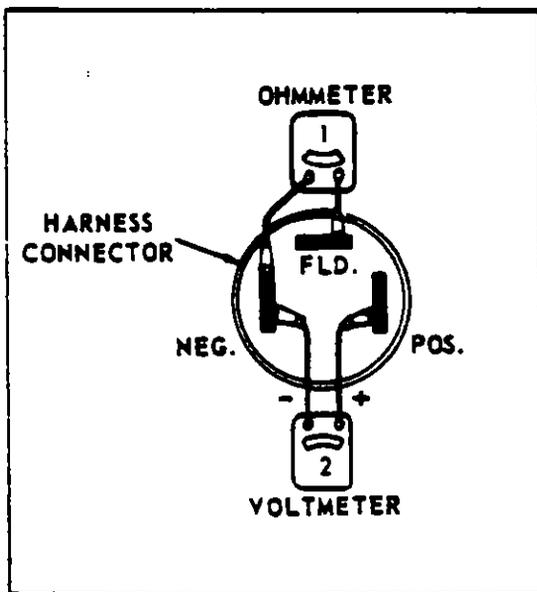

FIGURE 9-24. VOLT - OHMMETER TEST
- a. Check the alternator field resistance with an ohmmeter as shown in Step 1, Figure 9-24 and note the reading. Make sure the master switch is OFF. Readings of less than 2 ohms, or more than 8 ohms indicate a defective field winding in the alternator or a defective wiring harness. If the reading is within the 2 to 8 ohm range, check the reading against the allowable resistance in the circuit which can be calculated by dividing the specified voltage for the alternator by the
b. With switch turned ON, connect voltmeter as shown in Step.2, Figure 9-24. Make sure positive (+) and negative (-) voltmeter leads are connected as shown.